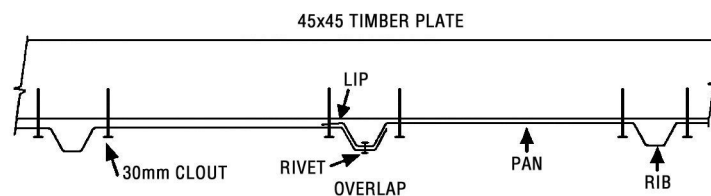

fig. 1
When fitting Gable End Sheets ensure they overlap correctly (**fig 1**).
Step 2: Back Wall: Position the first Wall Sheet with the LIP on the right hand side. Ensuring the LIP is flush with the side of the Studs and the top of the Wall Sheet is flush with the top of the Top Plate, tack in place. Position the next Wall Sheet with the LIP on the right hand side. Overlap as shown in (fig 1). Ensuring Wall Sheet is flush with top of Top Plate, tack in place. Repeat with remaining sheet.